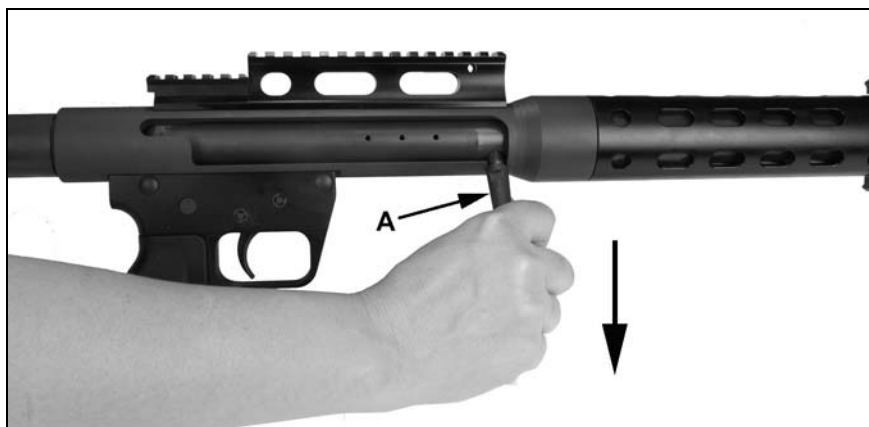

Figure 12
4. Push the bolt handle (A) fully forward and down. A round is now loaded into the chamber. See figure 12.